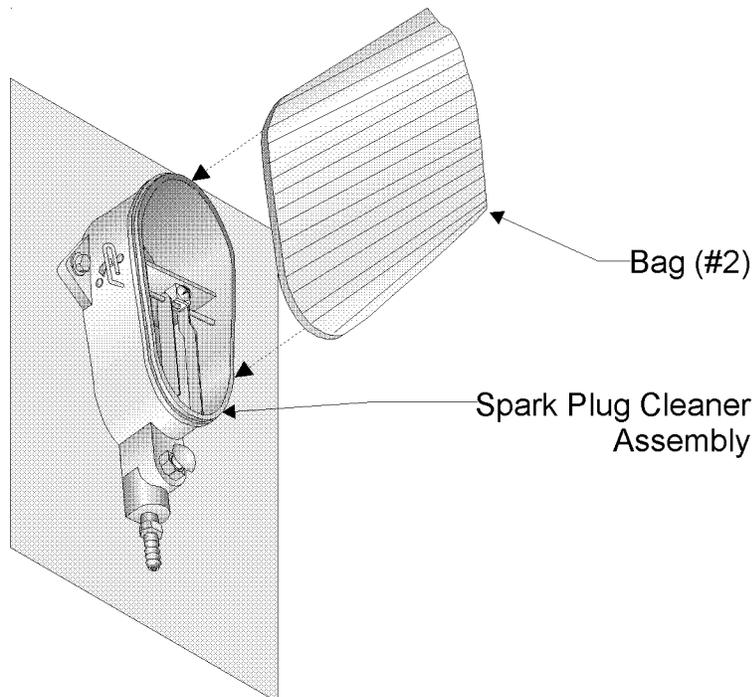

Figure 3 — Attaching the Bag
Step 4: Place the BAG (#2) around the BODY as shown in Figure 3